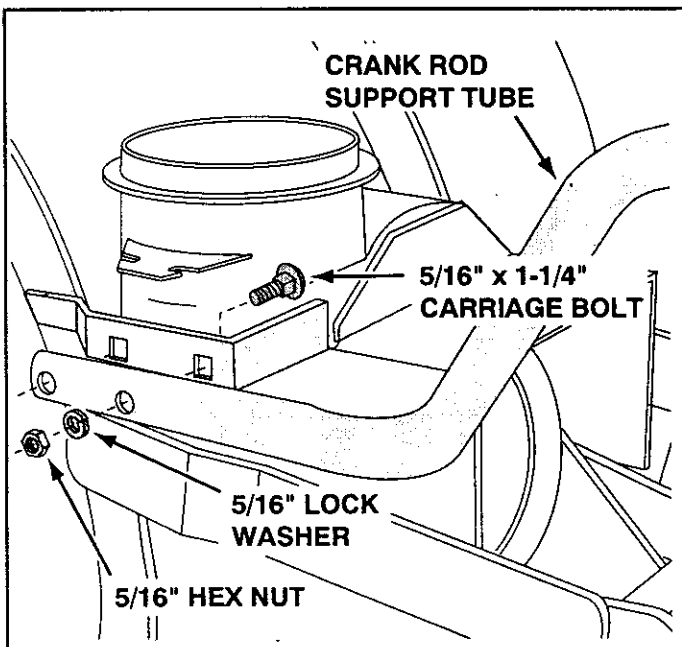

FIGURE 18 LEFT SIDE VIEW
- Assemble the crank rod support tube to the bracket on the left side of the thrower housing using two 5/16" x 1-1/4" carriage bolts, 5/16" lock washers and 5/16" hex nuts. See figure 18.